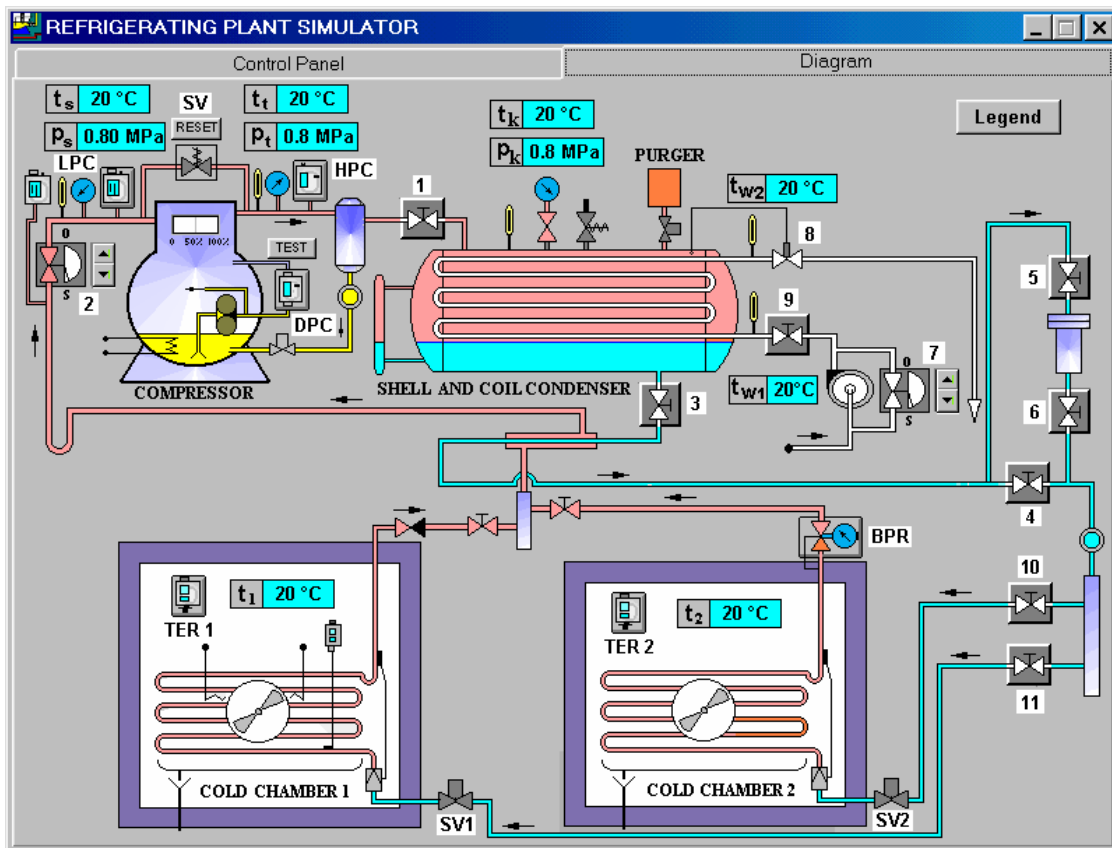

Fig. 8 Refrigerating plant diagram with valves and control devices description
1. Open valves 1,7,5,6,10 and 11 /fig.8/,
6. After switching on the compressor by setting switch at 'ON' position, open valve 3 /fig. 8/.
3. If valve 1 is not opened /fig. 8/, the compressor starts and will work until compression pressure p_t becomes higher than the pressure set at the high pressure safety cut-out HPC. Then the compressor stops and the red alarm lamp 'EMERG. STOP HIGH PRESS' turns on and the alarm sounds. In order to repeat the compressor start it is necessary to open valve 1 and wait until pressure decreases to about 1,4 MPa. Then it is necessary to reset the high pressure safety cut-out HPC by mouse clicking the button 'RESET' on HPC diagram. When pressure set at the HPC exceeds 2,1 MPa (in case of excessive pressure), the safety valve 'SV' acts (the valves field lights red), connecting the compressor suction and compression sides. If the compression pressure p_t decreases to the value about 1,4 MPa, then by mouse clicking press the button 'RESET' placed over the safety valve in order to unlock it.
4. If valve 3 is not opened /fig. 8/ the compressor starts and will work until all refrigerant vapour from the chamber evaporators is sucked off and suction pressure p_s decreases lower than pressure set at the low pressure safety cut-out LPC. The compressor starts automatically when suction pressure increases over the value set at the LPC.
5. If valves 5, 6 or 4 and 10, 11 /fig. 8/ are not opened, the situation above described at point 4, occurs.
6. If only the valve 10 /fig. 8/ is not opened, the compressor starts and works automatically but the temperature in the chamber 2 rises due to the lack of refrigerant in the evaporator.
7. If only the valve 11 /fig. 8/ is not opened the compressor starts and works automatically, but temperature in the chamber 1 rises due to the lack of the refrigerant in the evaporator.
9. If valve 9 /fig.8/ is not opened there is an increase of the condensing pressure p_k , condensing temperature t_k and compressing pressure p_t . If this increase exceeds the pressure set at the HPC, the compressor stops. The high pressure alarm lamp 'EMERG.STOP HIGH PRESS' turns on and the alarm sounds. To repeat compressor start - see procedure point 3 or 8.
10. During normal exploitation, the condenser is cooled by the pressure - controlled valve 8 /fig.8/. The condenser cooling water flow is regulated by means of by pass valve 7 (by pass valve with 4 positions possible). Mouse clicking in the arrow field in 'o' direction. increases the condensing temperature t_k , condensing pressure p_k and condenser cooling water temperature t_{w2} , while clicking in direction 's' decreases these parameters.
1. If valve 2 is closed /fig.8/, after a few seconds the low pressure safety cut-out stops the compressor. When suction line pressure increases over the value set on the LPC the compressor starts automatically.
3. If valve 1 is closed /fig.8/ after a few seconds the compressor stops due to the increasing compression pressure over the value set on the high pressure safety cut-out. The high pressure alarm lamp 'EMERG.STOP HIGH PRESS' turns on and the alarm sounds. It will be possible to repeat the compressor start only after the pressure decreases to the value of about 1,4 MPa, by pressing the button 'RESET' on HPC diagram.
4. If valve 3 is closed /fig.8/ the compressor stops after suction pressure decreases below the value set on the low pressure safety cut-out LPC. The temperature in the chambers slowly rises. The compressor starts automatically when suction pressure increases over the value set on the LPC.
5. If valves 4 or 5 and 6 /fig.8/ are closed - see point 4.
6. Valve 4 /fig.8/ serves as dehydrator's by pass, for e.g. in the event of its change or regeneration.
7. If valve 10 is closed /fig.8/ the compressor works with 50% of its capacity. Temperature in the chamber 2 slowly rises (the fan is on, the solenoid valve is open).
8. If valve 11 is closed /fig.8/ the compressor works with 50% of its capacity. Temperature in the chamber 1 slowly rises (the fan on, the solenoid valve open).
9. If valves 10 and 11 are closed /fig.8/ the compressor stops after decrease of suction pressure below the value set on the low pressure safety cut-out LPC, temperatures in chambers slowly rise.
11. If valve 9 is closed /fig.8/ the condensing pressure p_k , condensing temperature t_k , and compression temperature t_t increase. If the value of compressing pressure exceeds the value set on the high pressure safety cut -out HPC then the compressor automatically stops. The high pressure alarm lamp 'EMERG.STOP HIGH PRESS' turns on and the alarm sounds. To repeat the compressor start - see procedure point 3.
12. The pressure - controlled valve 8 /fig.8/ maintains constant condensing pressure p_k , and constant condensing temperature t_k .
1. Close valve 3 on the installation diagram /fig.8/.